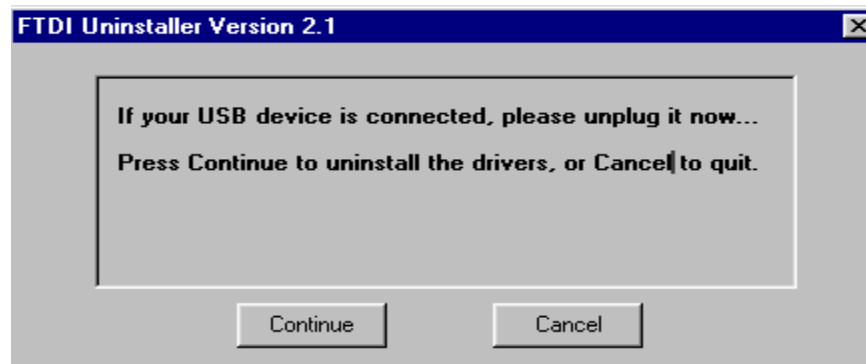

Figure 38
- Click **Continue** on the **FTDI Uninstaller** confirmation panel (Figure 38).